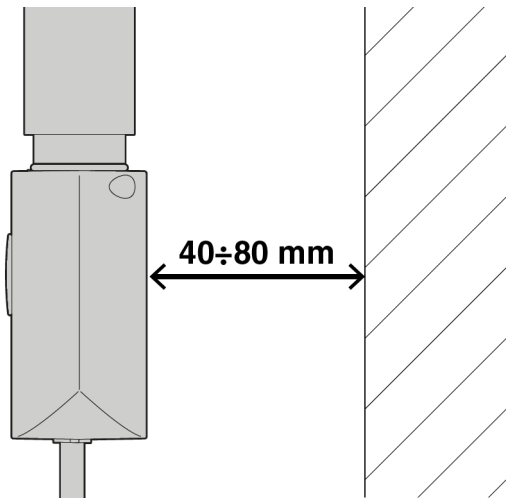

Figure 5
- The regulator must be installed at a distance of 40 mm (minimum) and 80 mm (maximum) from the wall (Fig. 5).